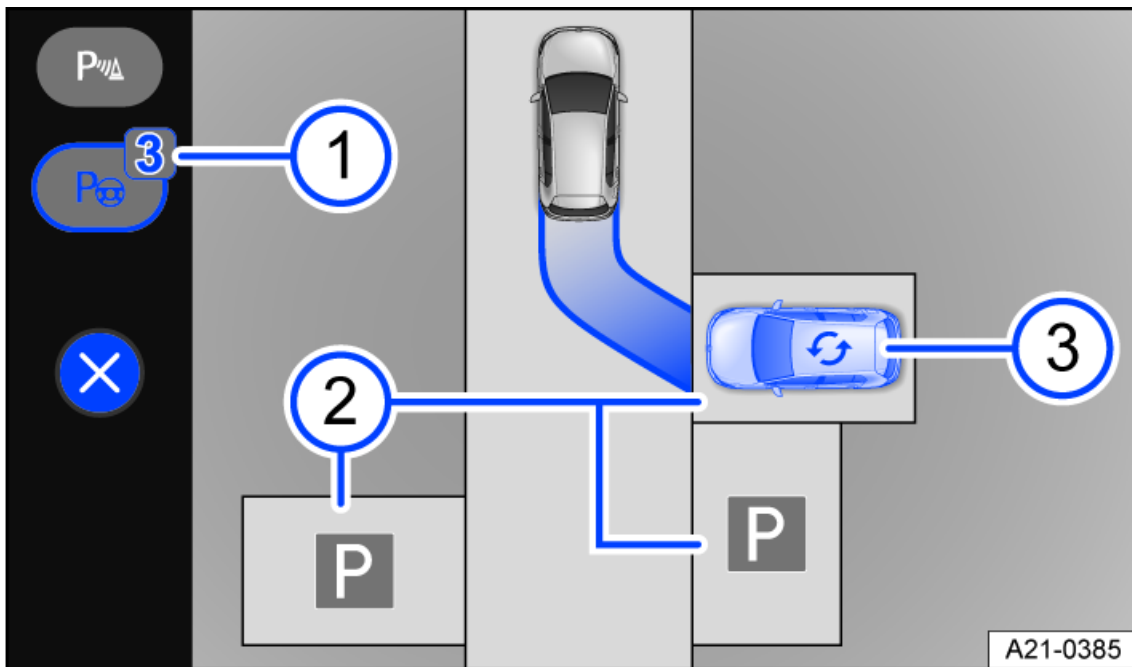

Fig. 116 Infotainment system: selecting a parking space (general example).
The number of detected parking spaces is displayed on the  function key *fig. 116*.
3. Park Assist Plus selects a preferred parking space and displays a blue vehicle graphic *fig. 116*.
1. Tap the desired parking space on the Infotainment system screen *fig. 116*.
If a new selection of parking spaces can be loaded, the  symbol will be displayed *fig. 116*.
If Park Assist is not activated, detected parking spaces fig. 116 are shown in the Park Distance Control screen display, if necessary.